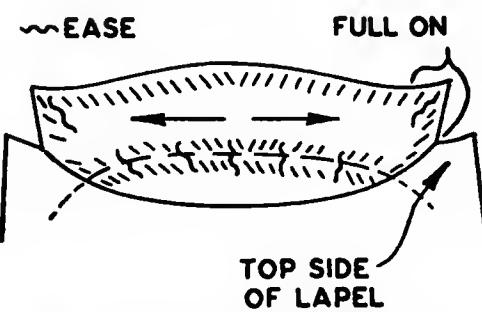

Fig. 197. Basting the upper collar to the undercollar.
- D. Baste  $\frac{3}{8}$  to 1 in. from the outer edge, rolling the collar. Begin at the center back and work toward each end, fulling the upper collar at the corners so the finished collar will be flat (Fig. 197).